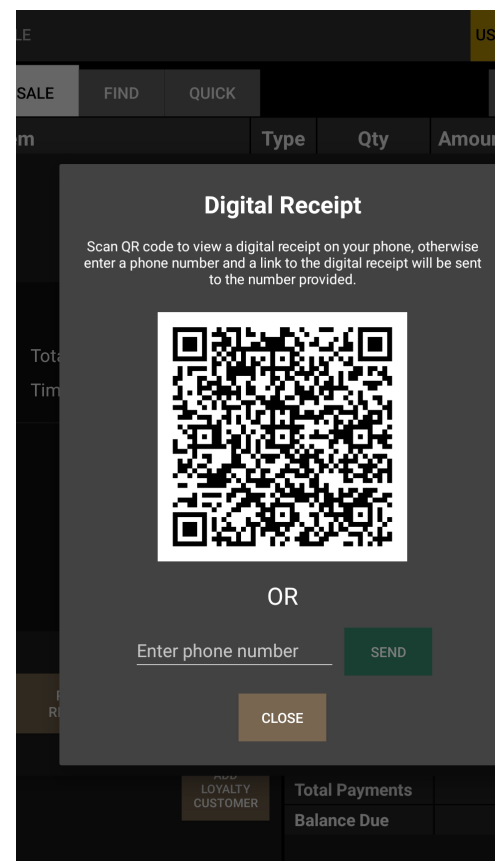

Figure 66
4. Customers may scan the QR code or enter a phone number to receive the receipt via text (Figure 66).